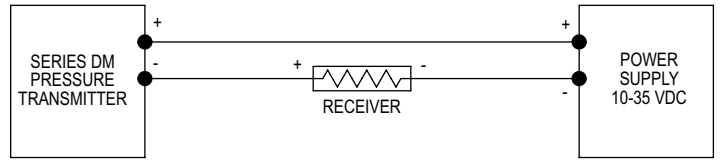
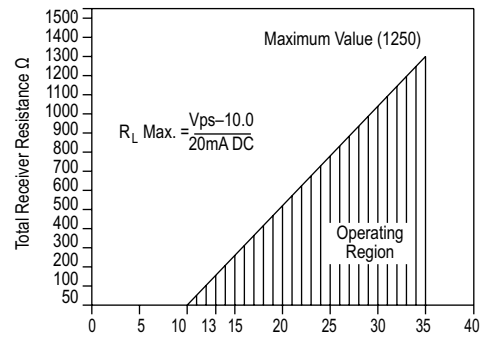

Figure 4
Figure 5
An external power supply delivering 10-35 VDC with minimum current capability of 40 mA DC (per transmitter) must be used to power the control loop. See Figure 4 for connection of the power supply, transmitter, and receiver. The range of appropriate receiver load resistance (RL) for the DC power supply voltage available is expressed by the formula and graph in Figure 5. Shielded two wire cable is recommended for control loop wiring. If grounding is required, use the negative side of the control loop after the receiver.